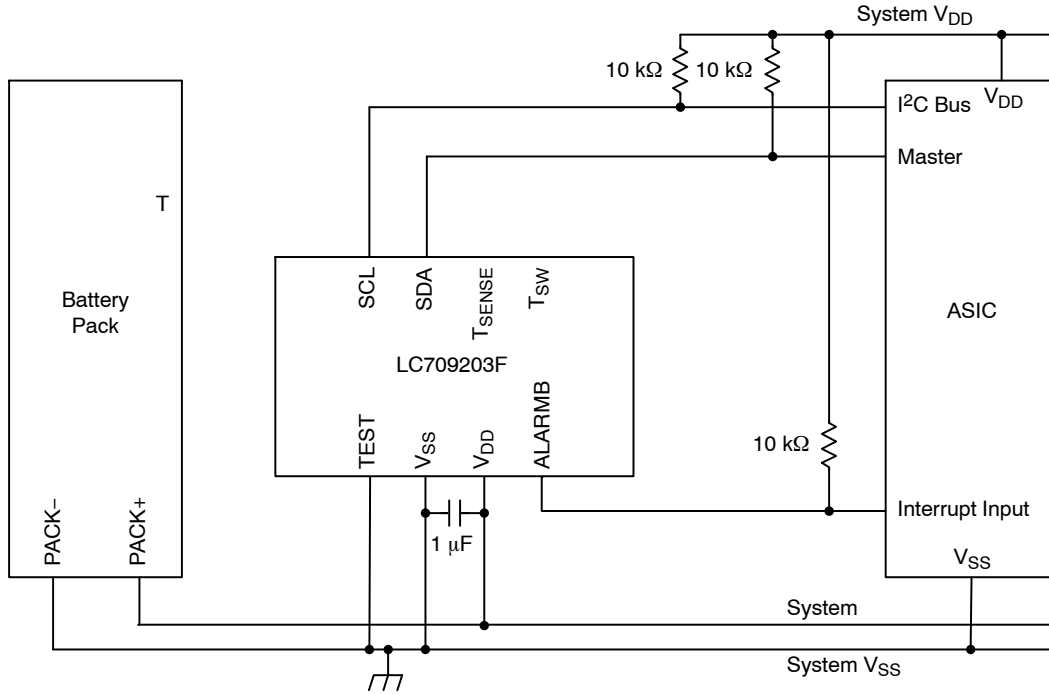

Figure 1. Example of an Application Schematic using LC709203F (Temperature Input via I2C)
1. TSW and TSENSE must be disconnected as Figure 1 when not in use.